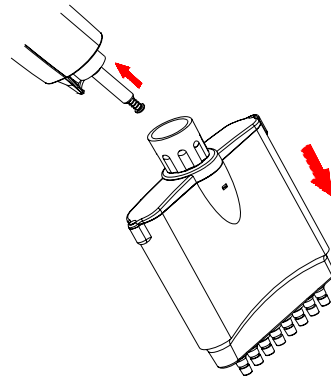

Figure 13: The lower part will come off easily and automatically.
4. **Please place the pipette on a flat surface.** Push the cylinder lock downwards until you hear a click sound as shown in Figure 13.